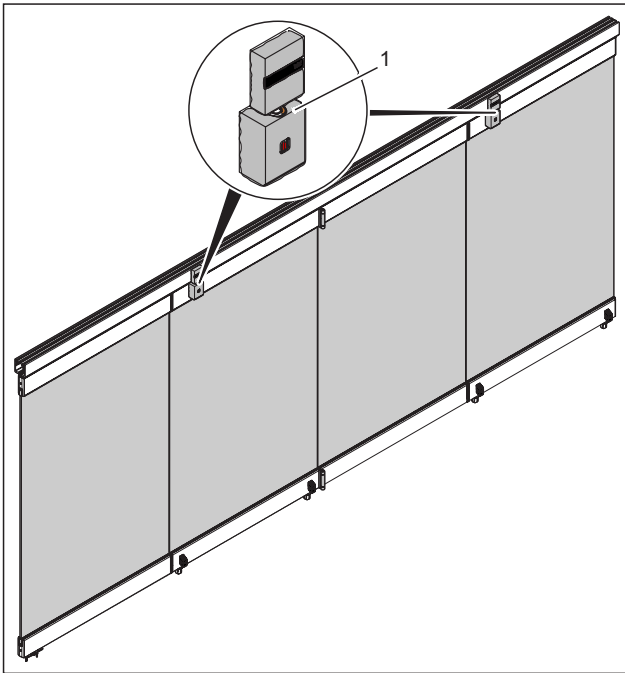

Fig. 25 Locking the devices
1. Check the top slide bolt (Fig. 25/1) for ease of operation and clean, if necessary.